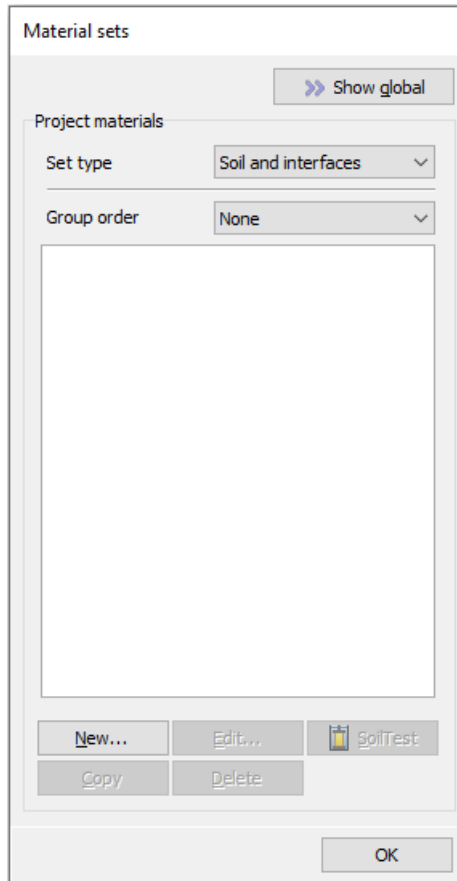

Figure 1–6: Material sets window
- 4 Enter the proper values in the **General properties** box (Figure 1–7 \(p. 18\)) according to the material properties listed in Table 1–1 \(p. 16\). Keep parameters that are not mentioned in the table at their default values.